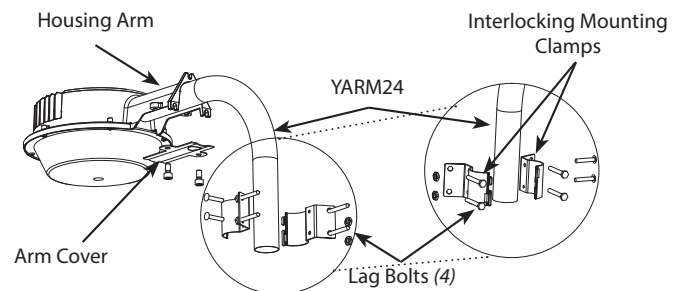

Fig: 2
1. Secure the **Interlocking Mounting Clamps** around the **YARM24** using the provided clamp screws, lock washers and hex-nuts (*Fig. 2*).
2. Mount the **YARM24** to a sturdy wall. Using the **YARM24** mounting plate as a guide, mark the 4 mounting holes. Drill 3/16" pilot holes and use provided **Lag Bolts** (4) to mount to wooden surface or use appropriate mounting hardware (*not supplied*) suitable for the mounting surface.
4. Secure **Arm Cover** and tighten the (2) **Screws**.